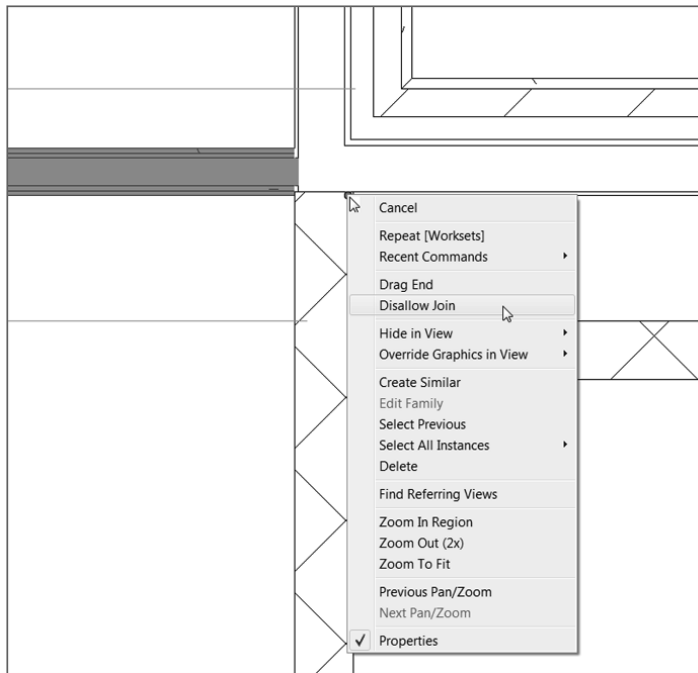

FIGURE 2.57: By right-clicking the wall's end grip, you can tell Revit to disallow that wall's join function.
2. Select the long, horizontal 6 1/8" (156 mm) wall that comes into the corner, as shown in Figure 2.57. A blue grip appears to the right of the intersection. This represents where the wall's extents are located.
5. Select Disallow Join (see Figure 2.57).